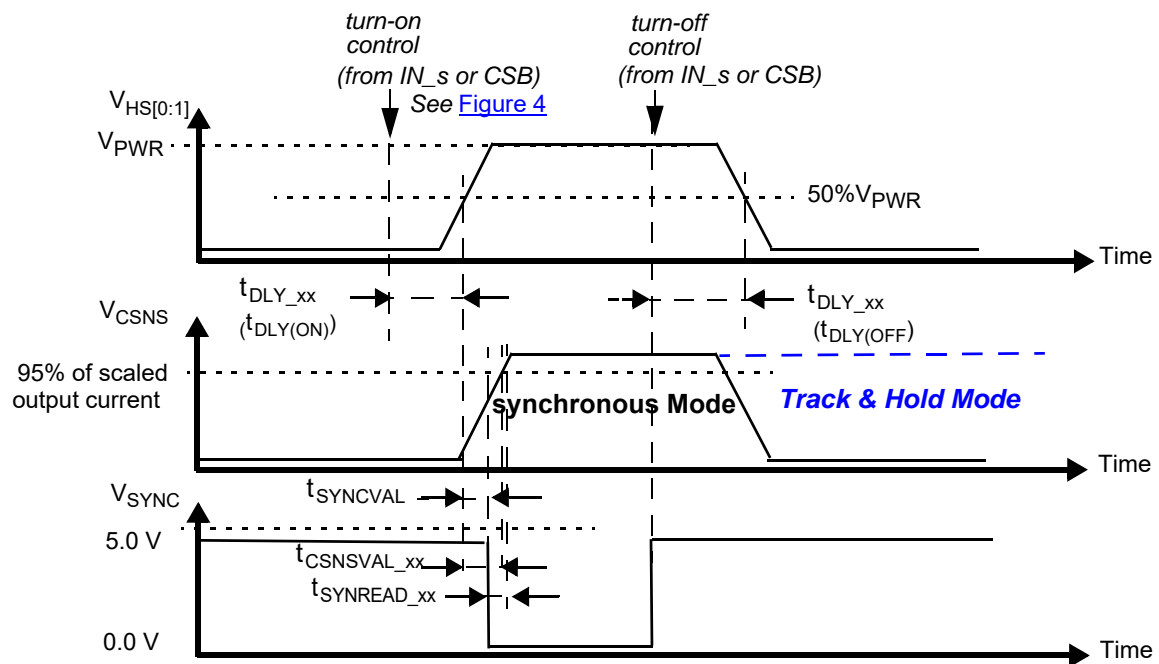

Figure 9. Synchronous and Track & Hold current sensing modes: associated delay and settling times
34. Settling time ($= t_{\text{CSNSVAL_xx}}$), SYNC output signal delay ($= t_{\text{SYNCVAL_xx}}$) and Read-out delay ($= t_{\text{SYNREAD_xx}}$) are defined for a stepped load current ($100\text{ mA} < I(\text{LOAD}) < I_{\text{OCLX A}}$ FOR $\text{CSNS_RATIO_S} = 1$, AND $300\text{ mA} < I(\text{LOAD}) < I_{\text{OCLX A_0}}$ FOR $\text{CSNS_RATIO_S} = 0$). (see Figure 9 and Output current monitoring \(CSNS\))
The CS pin allows independent current monitoring of channel 0 or channel 1 up to the steady-state overcurrent threshold. It can also be used to sense the device temperature. The different functions are selected by setting bits CSNS1_en and CSNS0_en to the appropriate value (Table 23). When the CSNS pin is sensed during switch-off in the (optional) track & hold mode (see Figure 9), it outputs the scaled value of the load current as it was just before turn-Off. When several devices share the same pull-down resistor, the CSNS pins of devices, the current of which is not monitored, must be tri-stated. This is accomplished by setting CSNS0_en = 0 and CSNS1_en = 0 in their GCR register (Table 12). Settling time ($t_{CSNSVAL_XX}$) is defined as the time between the instant at the middle of the output voltage's rising edge ($HS[0:1] = 50\%$ of V_{PWR}), and the instant at which the voltage on the CSNS pin has settled to $\pm 5.0\%$ of its final value. Anytime an overcurrent window is active, the CSNS pin is disabled (see Overcurrent detection on resistive and inductive loads). The current and temperature sensing functions are unavailable in Fail-safe mode and in Normal mode when operating without the V_{DD} supply voltage. In order to generate a voltage output, this pin requires a pull-down resistor ($R(CSNS)=1.0\text{ k}\Omega$ typ. and $470 < R(CSNS) < 10\text{ k}$). When the current sense resistor connected to the CSNS pin is disconnected, the CSNS voltage is clamped to $V_{CL(CSNS)}$. The CSNS pin can source currents up to about 5.6 mA.
To synchronize current sensing with an external process, the SYNC signal can be connected to a digital input of an external MCU. An open-drain pull-down on SYNC indicates that the current sense signal is accurate and ready to be read. The current sense signal on the CSNS pin has the specified accuracy $t_{SYNCREAD_XX}$ seconds after the falling edge on the SYNC pin (Figure 9) and remains valid until a rising edge is generated. The rising edge that is generated by the SYNC pin at the turn-OFF instant (internal or external) may also be used to implement synchronization with the external MCU. Parameter $t_{SYNCVAL_XX}$ is defined as the time between the instant at the middle of the output voltage rising edge ($HS[0:1] = 50\%$ of V_{PWR}), and the instant at which the voltage on the SYNC-pin drops below 0.4 V (V_{SOL}). The SYNC pins of different devices can be connected together to save micro-controller input channels. However, in this configuration, the CSNS of only one device should be active at a time. Otherwise, the MCU is not be able to determine the source of the SYNC signal. The SYNC pin requires an external pull-up resistor to V_{DD} .